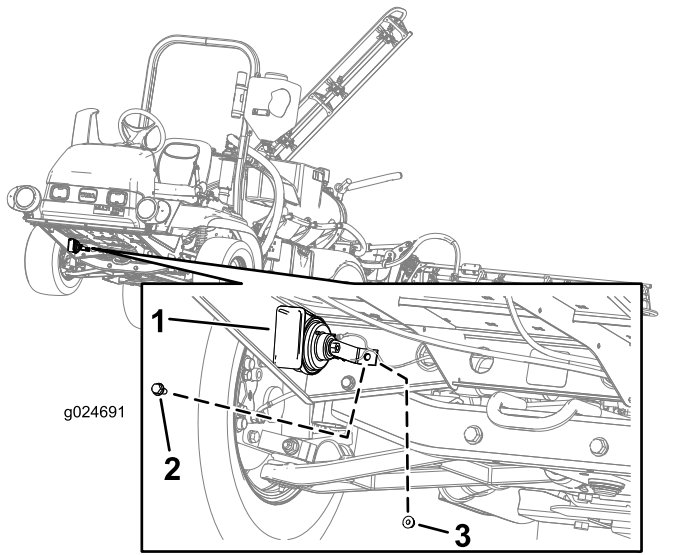

Figure 3
1. Align the horn assembly with the hole found on the front, right side of the machine (Figure 3).
2. Insert the hex-head screw (5/16-18 x 3/4 inch) through the hole of the horn assembly and the frame of the machine (Figure 3).
3. Install the horn assembly to the machine with the hex-head screw (5/16-18 x 3/4 inch) and the flange nut (5/16-18) as shown in Figure 3.